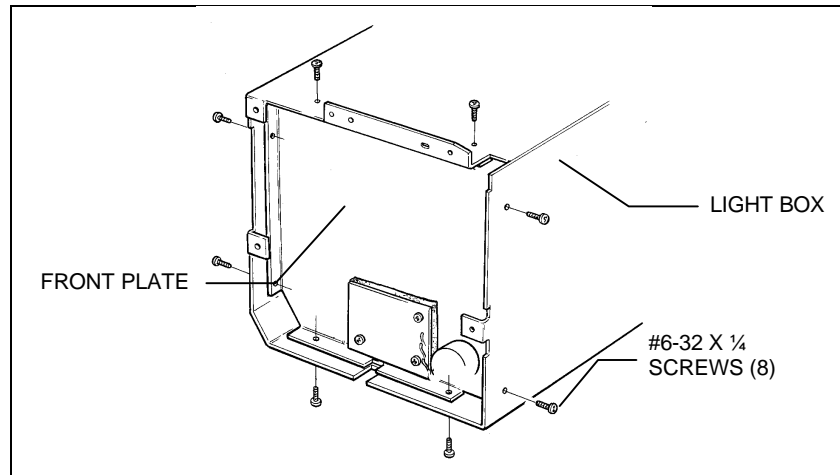

Figure 6-27. Removing Front Plate from Light Box
6. Remove eight #6-32 x ¼ screws (two at the top, two at each side, two at the bottom) which secure the Front Panel Assembly to the light box (Figure 6-27). Friction now holds the front panel in place.